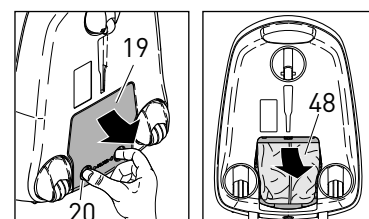
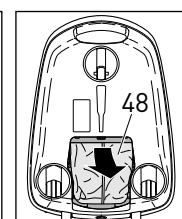

Figure 24
Figure 25
## Changing the Exhaust Microfilter - Figures 24, 25 & 26
After 10 to 20 bags have been used, change the exhaust microfilter (49). To remove the exhaust microfilter, press the filter cover release buttons together (20, figure 24) and pull the filter cover (19) off. Pull the material part of the filter out of the machine (49, figure 25). Press the red latches (50, figure 26) located on either side of the filter inward and pull the filter out. Insert the opening of the new filter over the exhaust opening with the red alignment tab at the bottom. When it is aligned, push down until the red latches (50) click shut to hold the filter in place. Tuck the material part of the filter inside the opening. Insert the cover by fitting the tabs on the top side of the cover into the grooves. Push the cover closed, making sure it snaps shut completely.